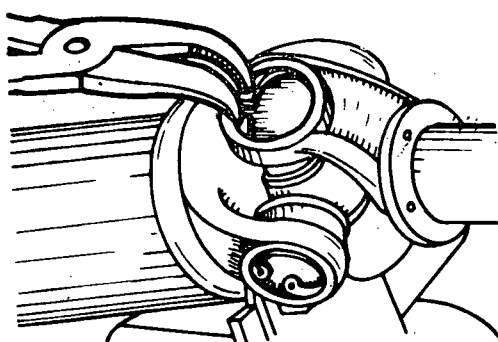

Fig. 1
- b) Remove the circlips (Fig. 1), using pliers.